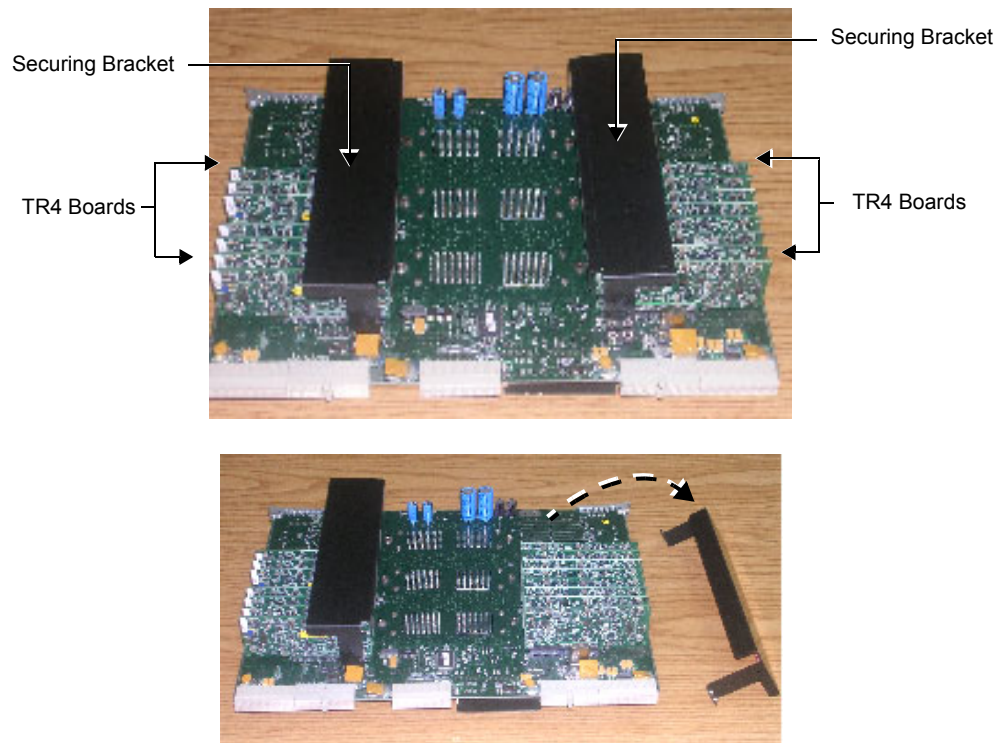

Figure 8-44 Removing the Securing Brackets
- 4.) Turn the FE Board over, then remove the brackets that secure the TR4 boards in place as shown in Figure 8-44 below.